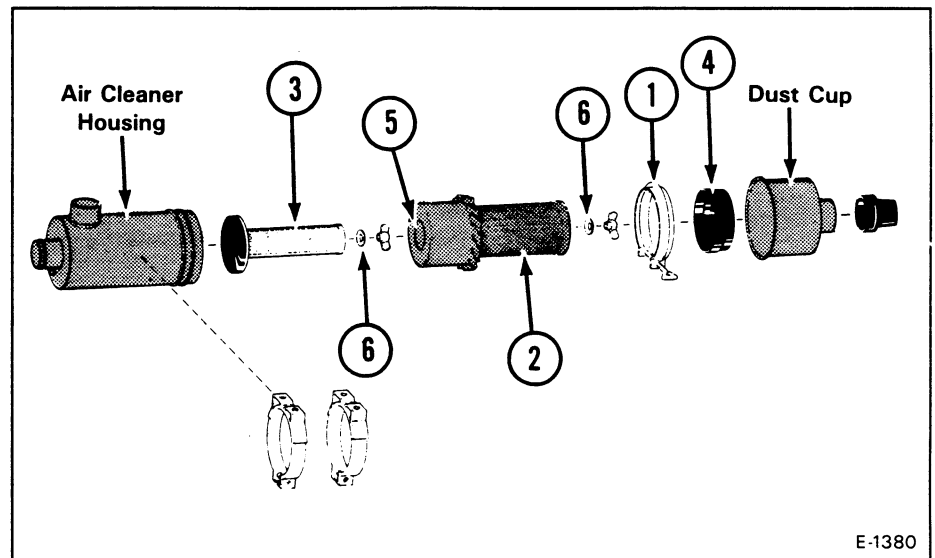

Fig. 1-8 Air Cleaner Assembly
(1) Stop the engine.
(2) Loosen the clamp on the dust cup (Fig. 1-8, Item 1). Remove the dust cup and the outer element (Fig. 1-8, Item 2). Do not remove the inner element (Fig. 1-8, Item 3) unless it must be replaced as indicated above.
(3) Remove the rubber boot (Fig. 1-8, Item 4) and empty the dust cup.
(4) Clean the inside of the filter housing so that the element has a smooth surface to contact at the seal (Fig. 1-8, Item 5). A tight seal is necessary to avoid corrosion, especially when the loader is operated in a highly corrosive application (Example: Fertilizer handling).
(5) Install the new filter element(s).
NOTE: The washer (Fig. 1-8, Item 6) must be under the wing nut.